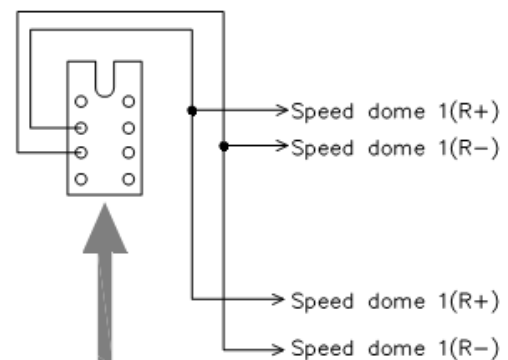

Figure6
3. Connections between the keyboard and the speed dome camera (Figure 6)